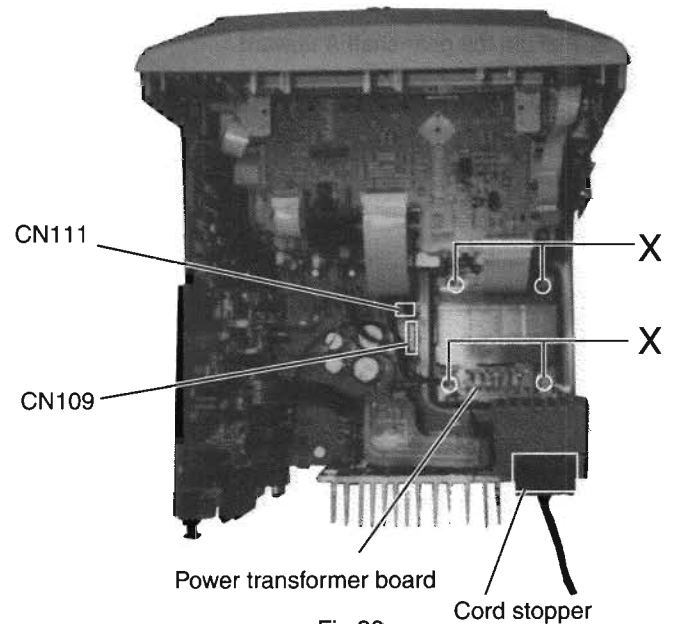

Fig.26
■ **Removing the Power Transformer Board (See Fig.26)**